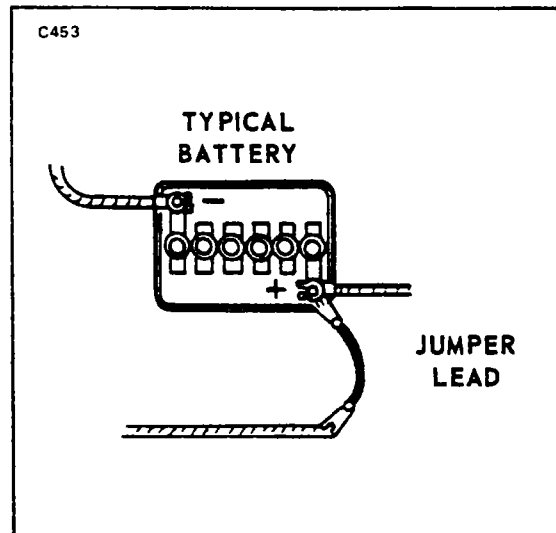

Figure 11-13. Jumper Connection
d. If meter reads zero voltage, disconnect lead at alternator "F1" (Field) terminal, and connect a jumper lead from this lead to battery positive (+) post. See Figure 11-13.